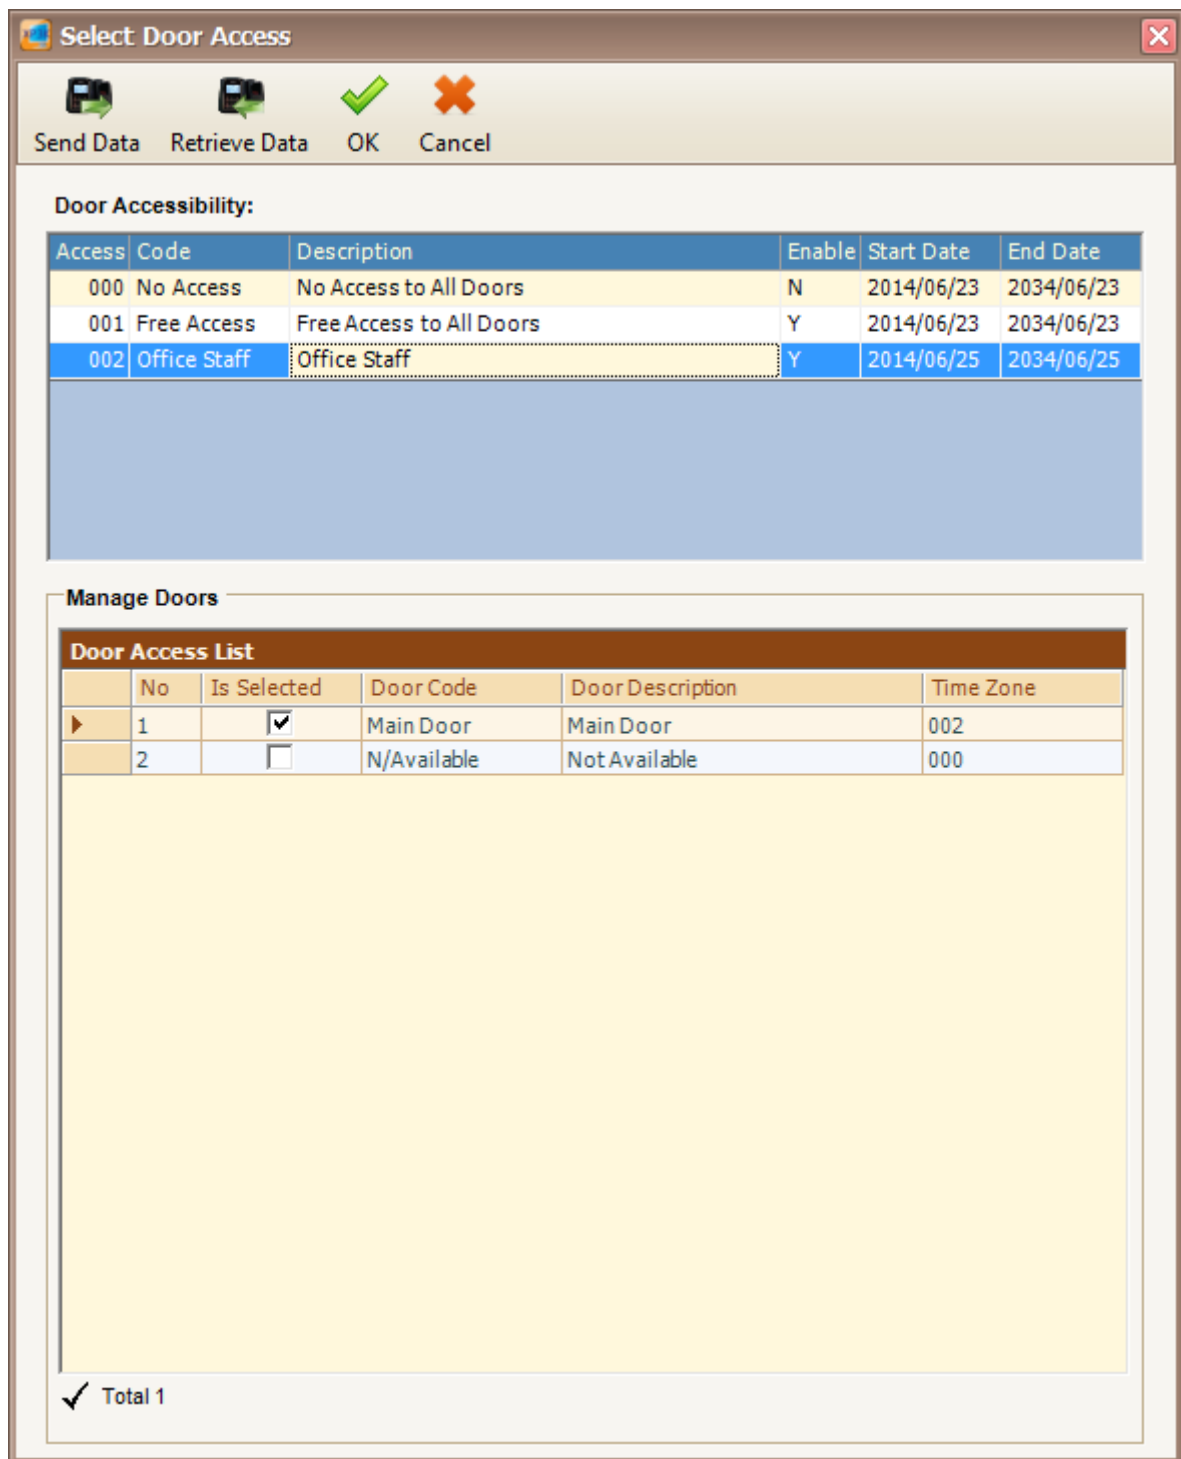

Figure 71 - Select Door Access
11. The following screen will be shown (Refer **Figure 71**).